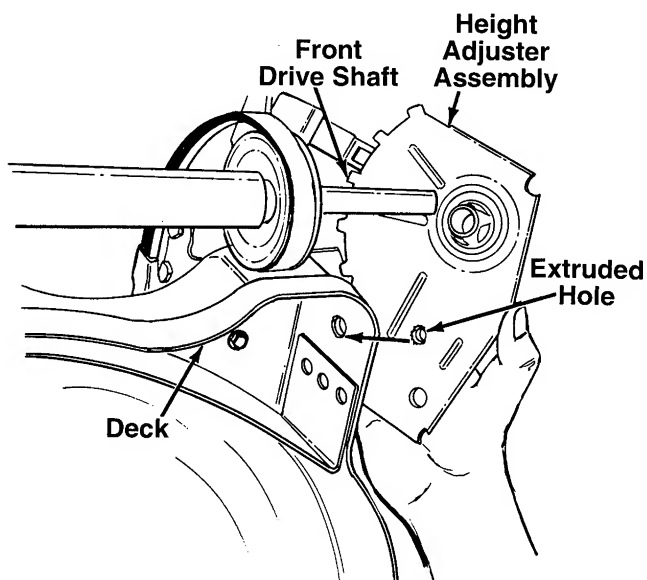

FIGURE 23.
**NOTE:** When reassembling the height adjuster assembly, make certain the extruded hole in the height adjuster is positioned in the deck properly. See figure 23. Make certain to tighten all nuts and bolts securely. If plastic was placed under the gas cap, be certain to remove it.